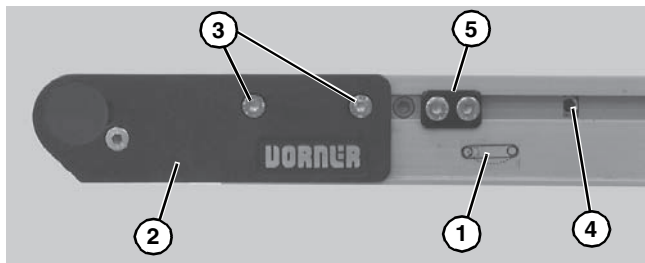

Figure 25
1. On tension end of the conveyor, identified with a  label (**Figure 25, item 1**), adjust head plate assembly (**Figure 25, item 2**): On both sides of conveyor, loosen fastening screws (**Figure 25, item 3**) and rotate pinion gear (**Figure 25, item 4**) to adjust head plate assembly.
3. After adjusting proper tensioning, tighten fastening screws (**Figure 25, item 3**) on both sides of conveyor to 60 in-lb (7 Nm).
4. If equipped with cam tracking assemblies (**Figure 25, item 5**), position against head plates and adjust belt tracking. Refer to "Conveyor Belt Tracking" on page 14.